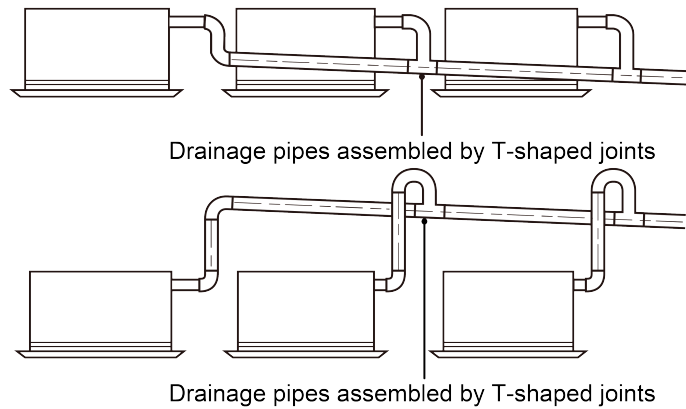

Fig.4.3.2
- (1) Drainage pipe should have the same diameter or larger diameter than the connection pipes (PVC pipe, outside diameter 25mm, thickness $\geq 1.5\text{mm}$).
- (2) Keep drainage pipe short and sloping downwards at a gradient of at least 1% for preventing forming air bubbles.
- (3) If the gradient of drainage pipe could not meet the installation requirements, raising pipe should be applied.
- (4) Insert the drainage hose into drain socket and then tighten the metal clamp securely.
- (5) Warp the sealing pad over drainage hose and metal clamp for heat insulation.
- (6) Make sure to perform insulation work for all drainage hoses in the room in order to prevent any possible water dropping due to dew condensation.
- (7) Apply the suitable diameter for converging drainage pipe according to the operating capacity of the unit, as show in Fig.4.3.2.